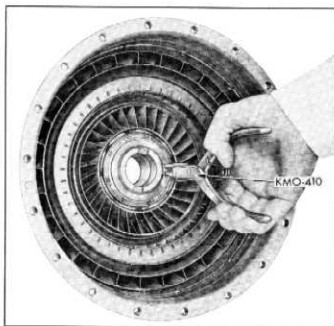

Fig. 75—Removing Stator Race Thrust Snap Ring
1. Remove the stator race thrust snap ring and thrust washer (fig. 75).